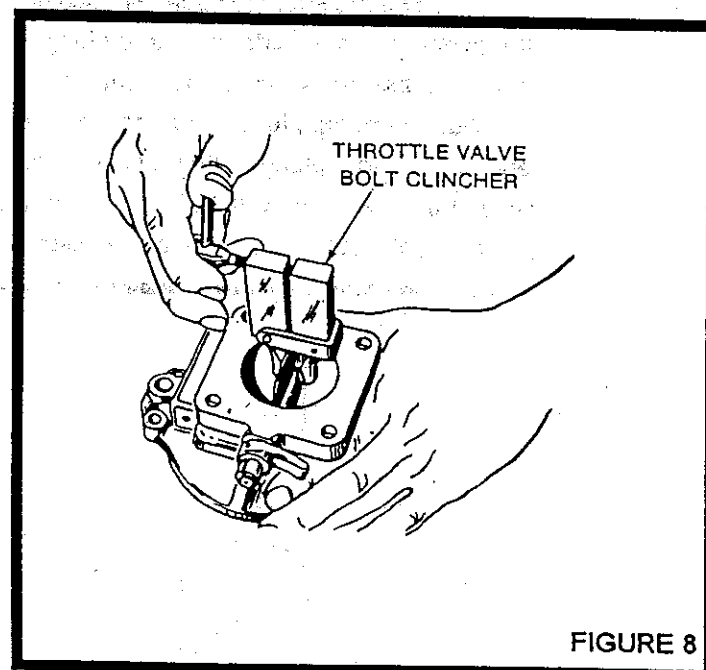

FIGURE 8
- 33) Install idle drill plug (66) to 12-16 inch pounds with Loctite 222 or equivalent mild threadlock.
- 34) Install throttle shaft (34), throttle valve (33), and throttle valve screws (32). Run screws lightly into place, rotate the shaft to the closed position and tap the valve lightly with the screw driver blade to seat the valve in throttle bore. Hold the throttle valve closed and tighten the screws. Torque screw (32) to 10-15 inch pounds.
- 35) Safety the throttle valve screws in place with clinching tool M-109. See Figure 8. Carefully installed, the shaft will rotate freely from fully closed to wide open. Note: Certain carburetors do not use a wide open valve and you may notice that the valve is limited up to 15° from the fully open position. This is normal and an important part of the full throttle requirements.